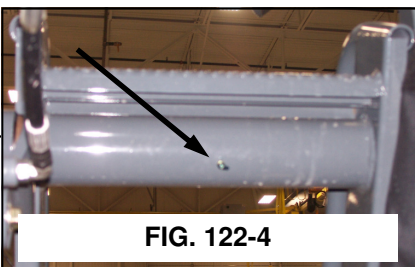

FIG. 122-4
**LADDER**– The ladder pivot tube (figure 122-4) has a grease zerk that needs to be lubed every 50 hours or as needed.